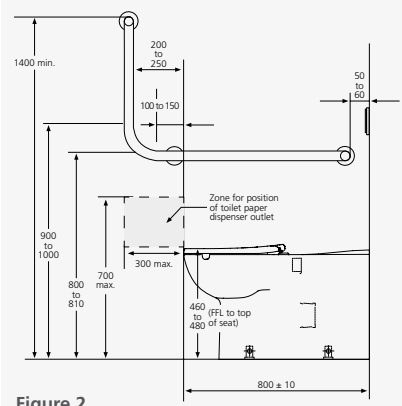

Figure 2
**The toilet paper dispenser** shall be located within the zone specified in Figure 2.